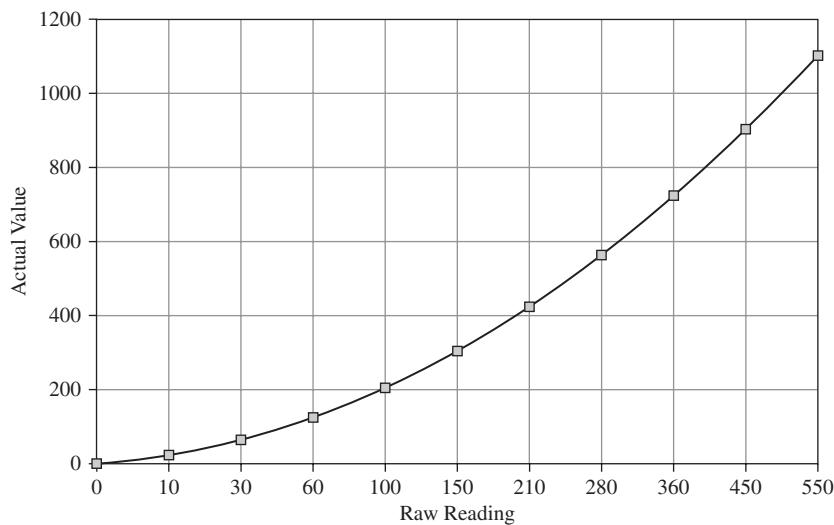

FIGURE 6.3 Actual reading against raw value for a fictional sensor.
certainly be supplying information to a microcontroller, a common way to make the calibration is to change the values in a lookup table. This table contains accurate values against raw values. For example, the raw value straight from a 12-bit analog-to-digital converter is a number between 0 and 1023. These numbers, perhaps in increments of 5, might be the left-hand side of the table, with the right-hand side of the table containing the equivalent temperature as a decimal in degrees Celsius. Interpolation can be used in the gaps between the raw readings by assuming that the small segment of the curve is linear (see Fig. 6.3).
**Example 1:** Using a potential divider as shown in Fig. 6.3 with a fixed resistor of 4.7 kΩ and an NTC thermistor with a  $T_0$  of 25°C, an  $R_0$  of 4.7 kΩ, and a *Beta* of 3977, what is the formula for calculating  $V_{\text{out}}$ ?